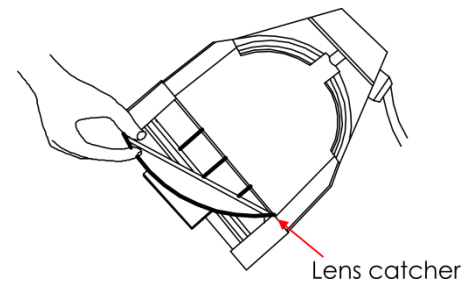

Fig. 11
- 05) Allow the lens to slide forward and rest upon the lens catchers (Fig.11).